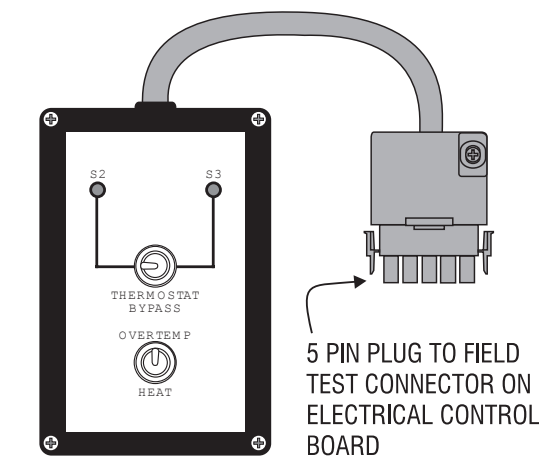

Figure 5 - Test Tool* (P/N 08606000) (for schematic, see figure 12, p. 27)
3. Connect the Test Tool (fig. 5) to the 5-pin field test connector on back of the PC board and route the Test Tool cable out through the opening in the bottom of the unit (see fig. 10, p. 25). Close the two halves of the enclosure and temporarily secure it closed with adhesive (duct) tape. Plug in the power unit.